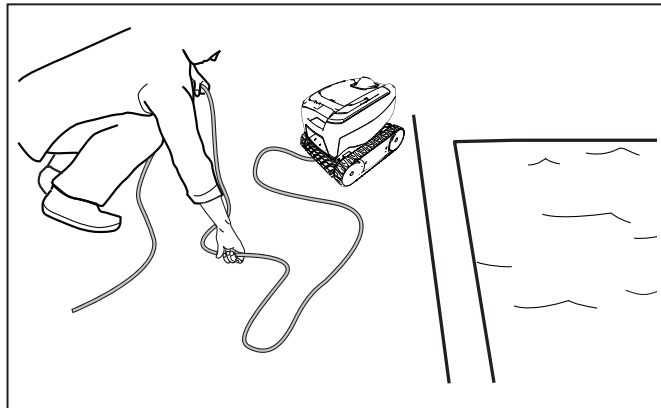

Figure 13. Untangle the Floating Cable
2. Starting at the cleaner head, remove all coils and tangles from the floating cable (Figure 13). Lay the cable in the sun to loosen any tangling memory.